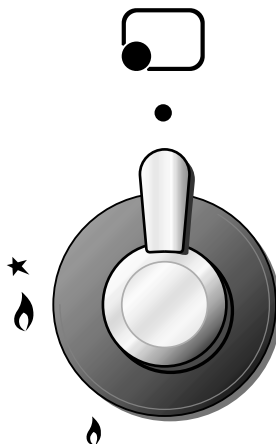

Fig. 4.3
Each hob burner is controlled by a separate gas tap operated by a control knob (fig. 4.3) which has 3 positions marked on the control panel, these are:
- 1) Lightly press and turn the knob anti-clockwise, and make the symbol ★ 🔥 printed on the control panel to match with the indicator on the knob (fig. 4.3).